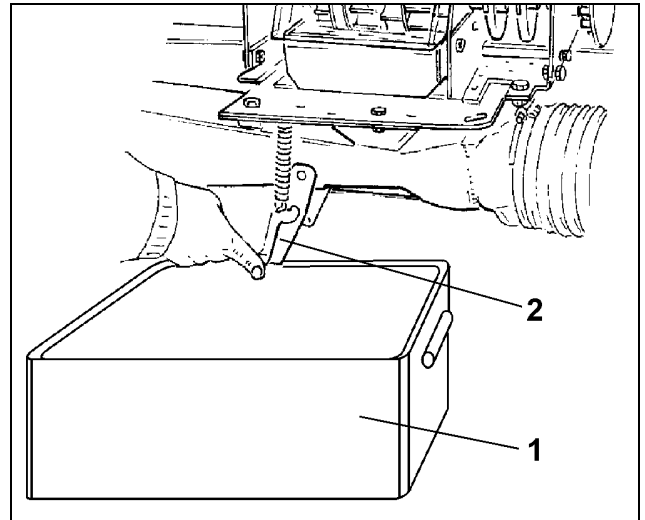
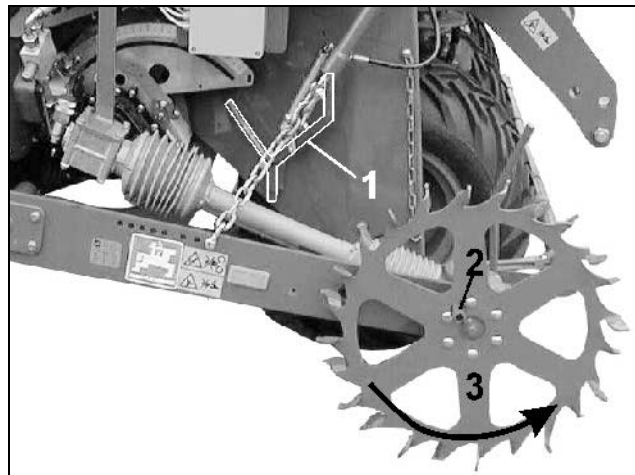
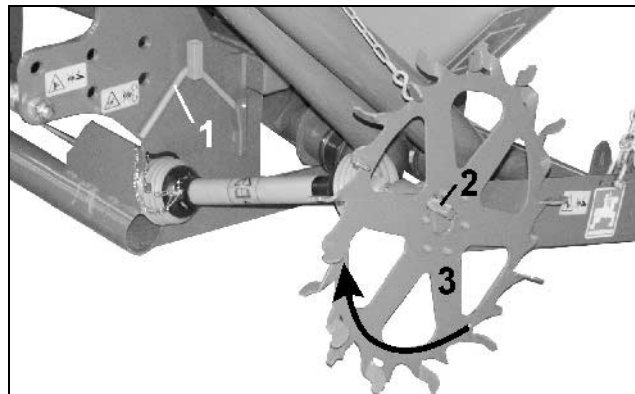

Fig. 67
Fig. 70
Fig. 71
- Place a calibration tray (Fig. 67/1) below every metering unit and open the injector sluice flap (Fig. 67/2) on every metering unit.
- Take the calibration crank (Fig. 70/1). The calibration crank is located in a retainer on the frame.
- Use square end neck (Fig. 70/2, Fig. 71/2) to push the calibration crank on to the star wheel (Fig. 70/3, Fig. 71/3).
FPS (Fig. 70): Turn the star wheel in left direction.
FRS (Fig. 71): Turn the star wheel to the right.
- With the calibration crank (Fig. 71/1) turn the star wheel until all metering wheel housings of the seed metering wheel(s) have been filled with seed and a uniform flow of seed runs into the calibration tray(s) (Fig. 67/1). Empty the contents of the calibration tray into the seed hopper and turn the crank in times taken from the Table 2.
- place the calibration crank (Fig. 70/1) back into the retainer
- shut off injector sluice flap (Fig. 67/2) .